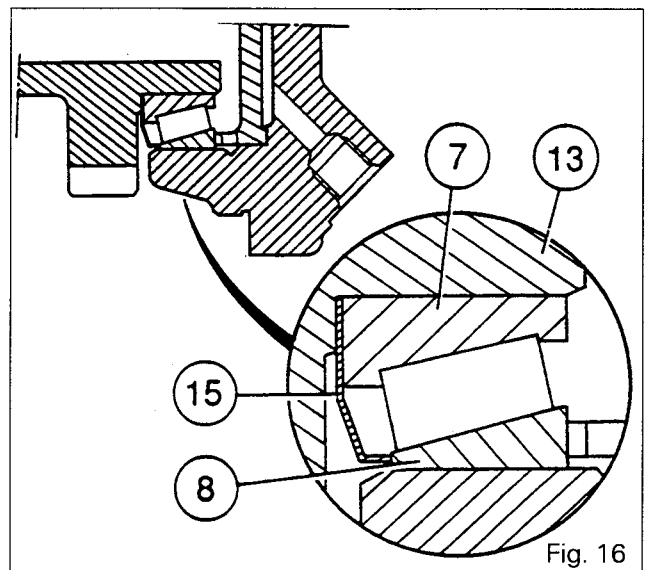

Fig. 16
**Note : To obtain correct lubrication of the friction ring (30), a deflector (15) (mounted between the pinion (13) and the bearing cone (7) in contact with the cup (8) (Fig. 16).**